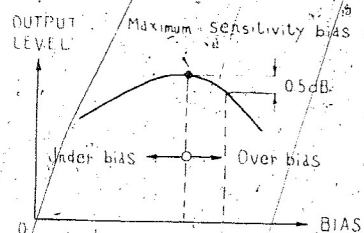

Fig. 28
2. Using the STD-601 test tape, record and playback the 333Hz signal simultaneously. Adjust the playback output level to a value 0.5dB past the maximum by turning VR1509 (L. ch) and VR1510 (R. ch) in a clockwise direction (starting from an extreme counter-clockwise position) (See Fig. 28).